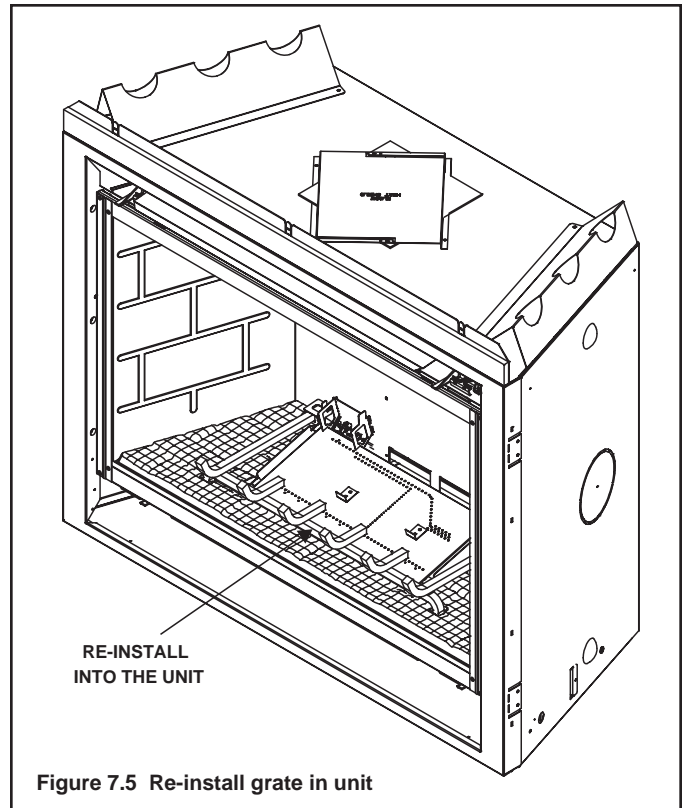

Figure 7.5 Re-install grate in unit
4. Reinstall grate into unit (see Figure 7.5).